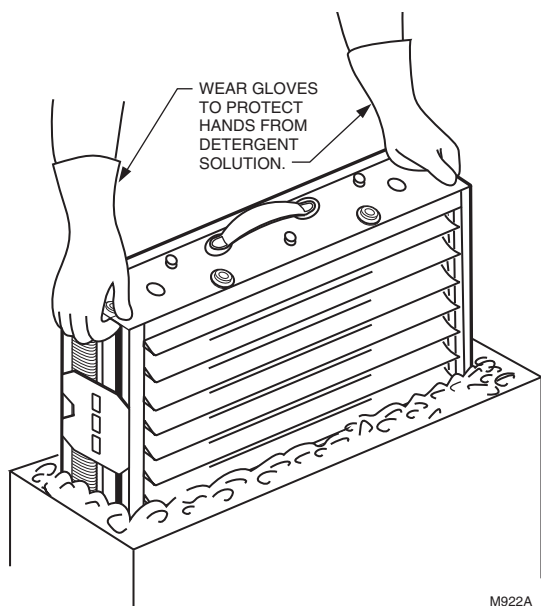

Fig. 10. Washing cells in container.
3. After detergent is completely dissolved, place cells in container and let soak for approximately 15 minutes. Agitate up and down a few times and remove. See Fig. 10.